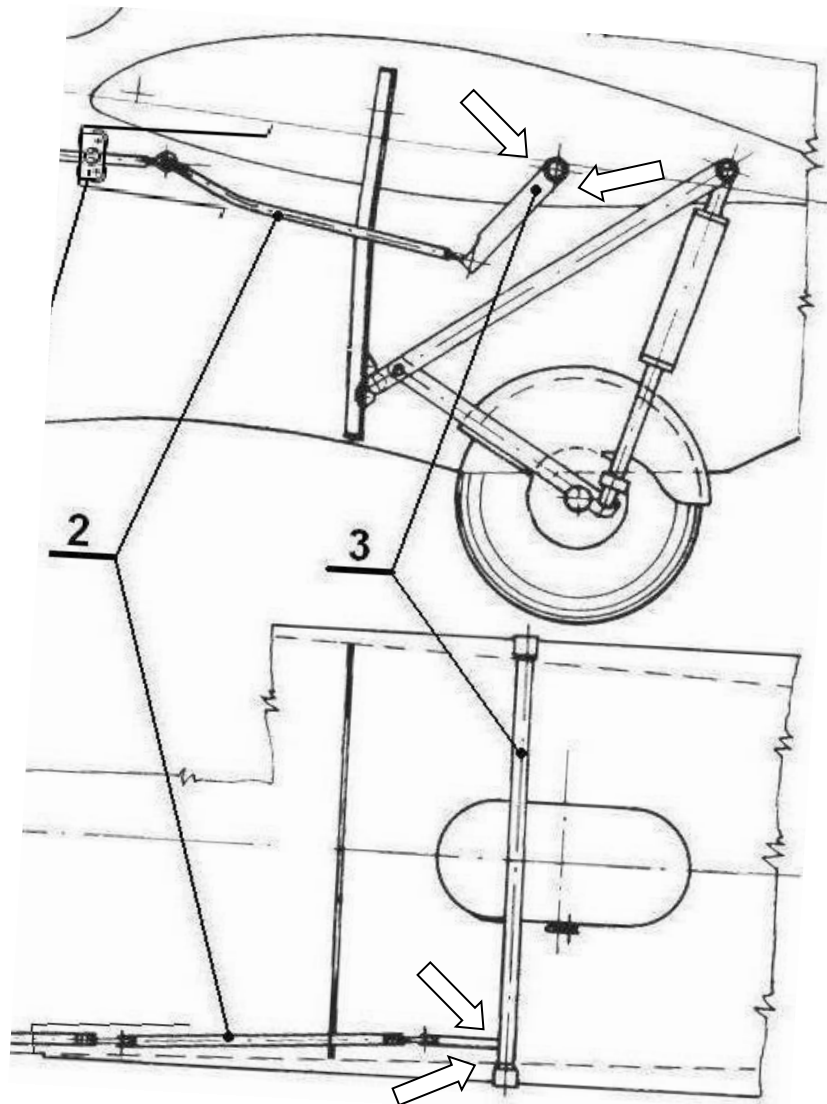
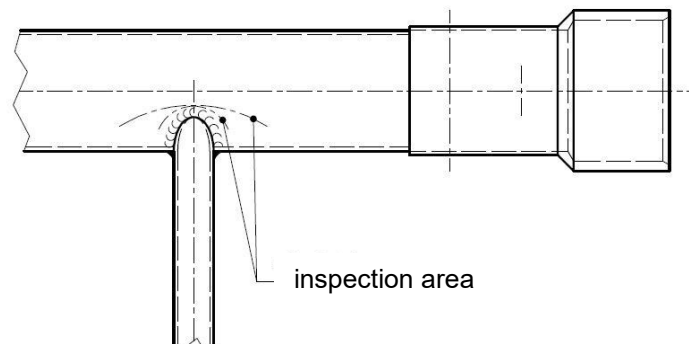

Figure 1 – location of the torsion tube (3) of the airbrake drive in the fuselage.
Figure 2 – connection of the lever to the torsional tube of the airbrake control with indication of areas where cracks may appear (on both sides).
1 | Cracks or permanent deformation of the tube and lever (in the area where these components join) or cracks of the welds are not permitted (Figures 1 and 2).
- 3.1.2. Using a mirror and a strong light source (flashlight), visually inspect the area where the lever is welded to the torsional tube (item 3 in Figure 1 and the areas susceptible to cracking, as indicated in Figure 2).
The arrows indicate the areas being checked, shown in more detail in Figure 2.
- 3.2.2. Using a magnifying glass with at least 3x magnification, inspect that there are no cracks in the weld area and around the welded lever-tube joint (Figure 2).